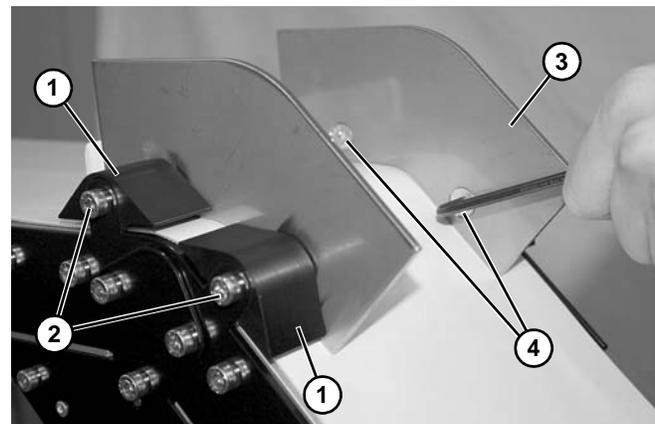

Figure 80
3. Install spacers (Figure 80, item 1) on both sides of conveyor with screws (Figure 80, item 2).
4. Install guard (Figure 80, item 3) on both sides of conveyor with screws (Figure 80, item 4).